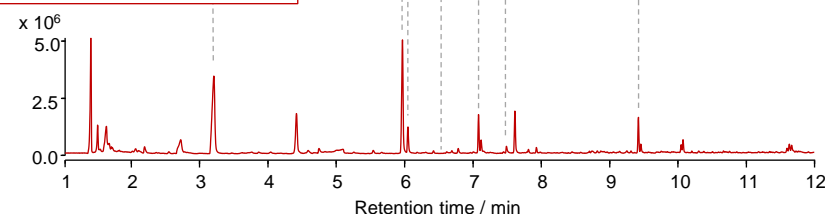

Fig. 2 Pyrograms of acrylic copolymers obtained by different injection methods.
**[Results]** The pyrograms obtained by different injection methods are shown in Fig. 2. In the split injection method, peaks of all seven monomers were detected, while in the splitless injection method, the pyrogram profile was very different from that obtained by the split injection method. This was due to the secondary reactions occurring under a slow carrier gas flow. On the other hand, the F-Splitless injection method afforded a pyrogram that was similar to that obtained by the split injection.